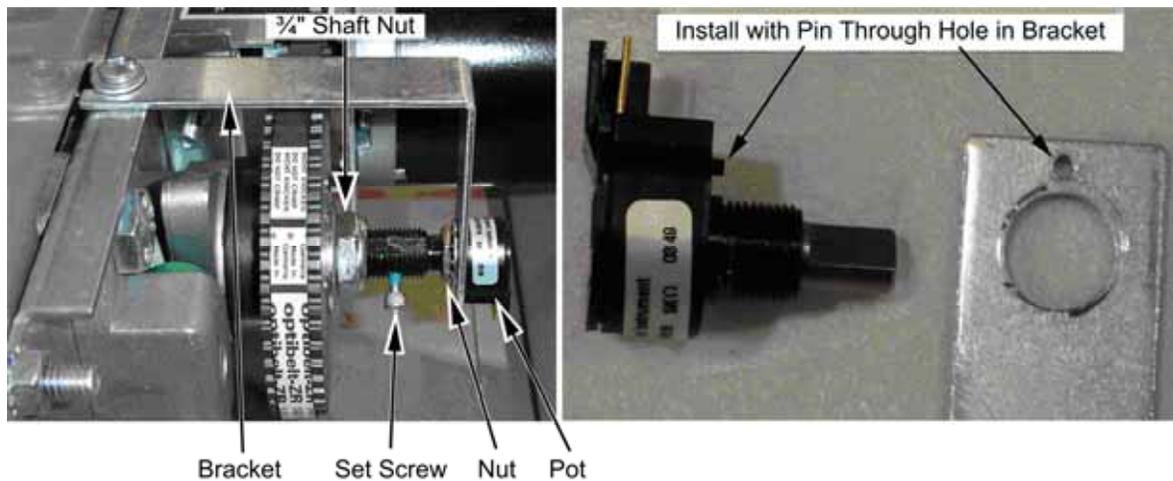
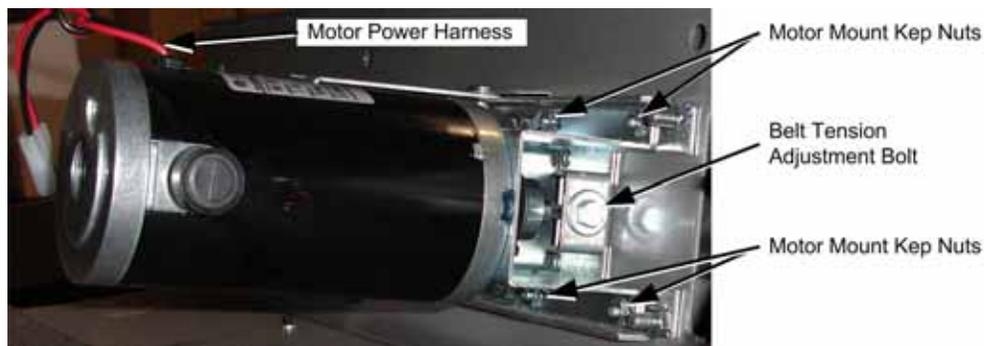

Figure 7. Replacing the 5 K $\Omega$  Steering Pot
Figure 8. Servicing the Steering Motor
To replace a pot, refer to Figure 7 and perform the following steps:
4. Reverse these steps to install the new pot. Install the pot with the plastic pin through the small hole in the bracket, as shown in Figure 7. Use Loctite Blue to ensure the set screw is secure.
Refer to Figure 7 above, and Figure 8, and perform the following steps to remove the force-feedback belt for repair.
2. Using a 7/64 Allan wrench, loosen the set screw from the steering column and remove the bracket with the pot attached (see Figure 8).
3. Loosen the four (4) 3/8" motor mount Kep nuts that secure the steering motor to the frame (see Figure 8).
4. Using a 10mm socket wrench, loosen the belt tension adjustment bolt several turns until you can slip the belt off of the motor and steering gears (see Figure 8).
6. To replace the motor, remove the four (4) 3/8" Kep nuts that you loosened in step 2, and remove the motor.
1. Tighten the tension adjustment bolt on the motor assembly, shown in Figure 8, until the belt is fully stretched, and then loosen the bolt by 1/2 turn.